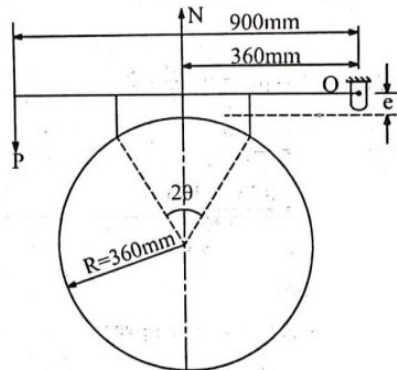

Figure-1
- b) A 360 mm radius Brake drum contacts a single shoe as shown in figure-1 and resists a torque of 250 Nm at 500 rpm. The coefficient of friction is 0.3. Determine 15,K3,CO6